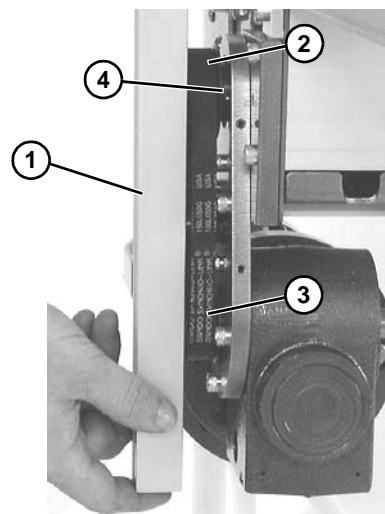

Figure 10
7. Using a straight edge (**Figure 10, item 1**), align driven pulley (**Figure 10, item 2**) with drive pulley (**Figure 10, item 3**). Tighten driven pulley set screws (**Figure 10, item 4**).